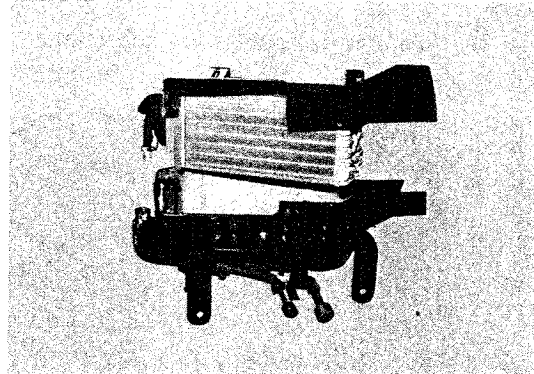

Fig. 61
- 8) Remove the upper case w/evaporator from the lower case. See Fig. 61.